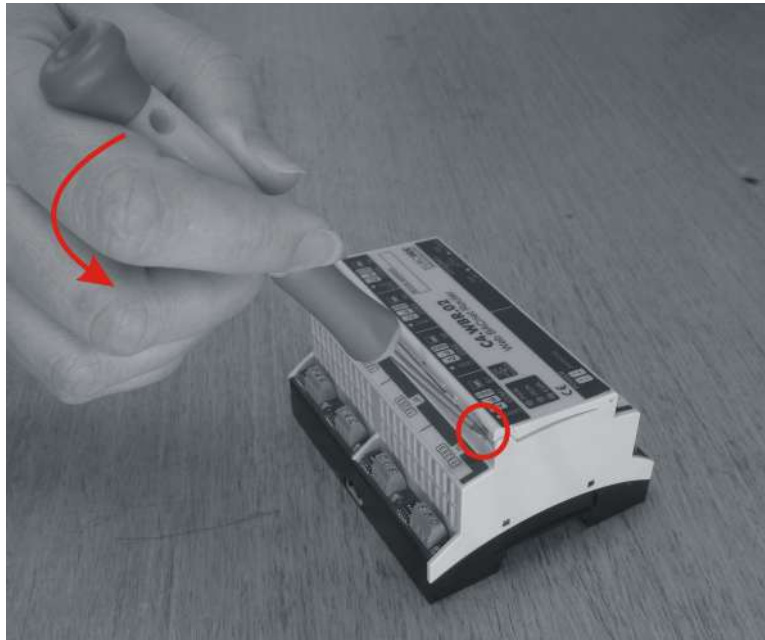

Figure 3
1. Using a screwdriver, open the lid of the WBR (Figure 3)